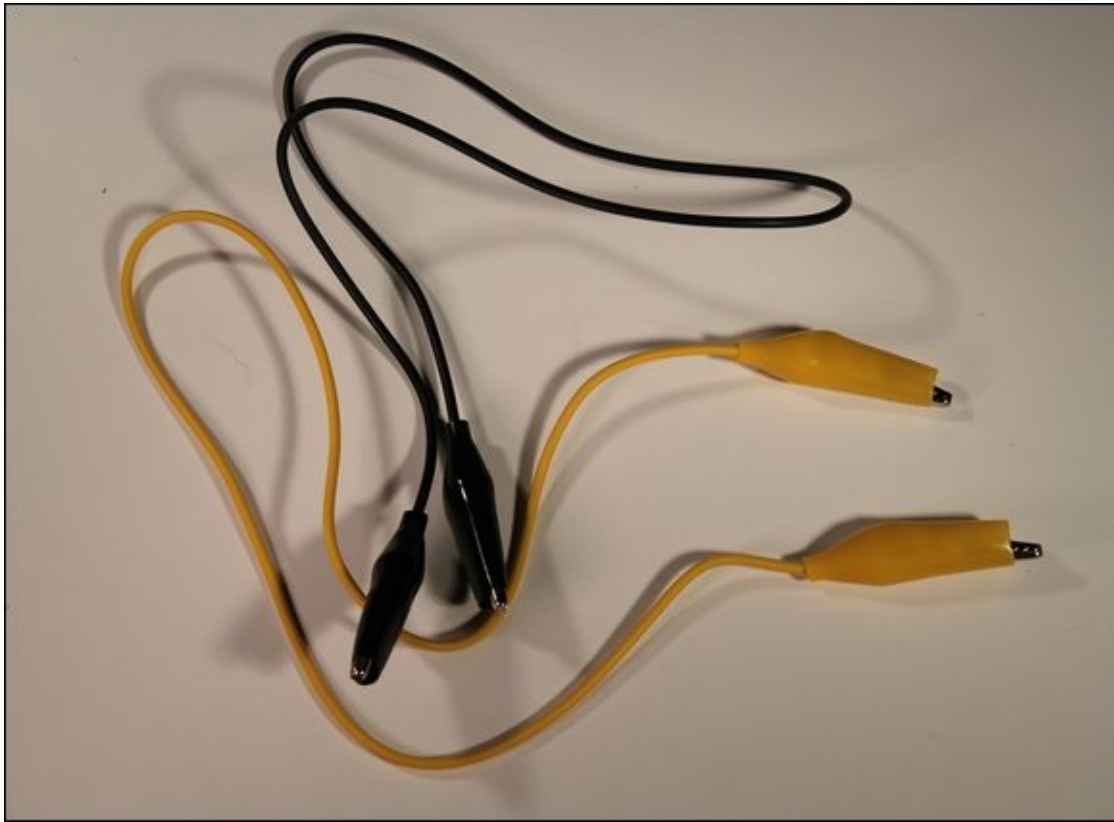

FIGURE 3-14: Jumper clips are great for making quick connections.
- **Jumper clips:** These are short (typically 12 or 18 inches) wires that have *alligator clips* attached on either end, as shown in Figure 3-14. You'll use them to make quick connections between components for testing purposes.